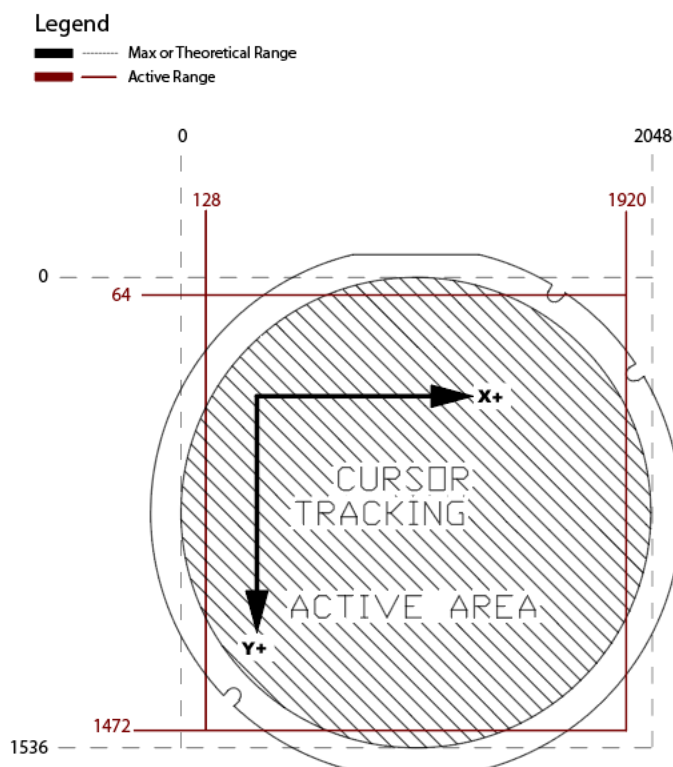

Figure 6. Representation of the Difference Between Maximum and Active Range (drawing not to scale).
The Pinnacle ASIC is designed to report absolute position values ranging  $0 \leq X \leq 2048$  and  $0 \leq Y \leq 1536$ . Due to the distinct properties of the outermost electrodes, the active area (or reachable area) of the sensor is slightly reduced. See Figure 6 below for a description of active range coordinates.
**Note:** There are instances where electrical noise may cause reported coordinates that are just outside the Active range shown in Figure 6. As a precaution, Cirque recommends that the designer implement “clipping” on the reported coordinates to  $128 \leq X \leq 1920$  and  $64 \leq Y \leq 1472$ . This clipping ensures that any scaling/mapping algorithm employed by the system will have predictable behavior near the operational limits.